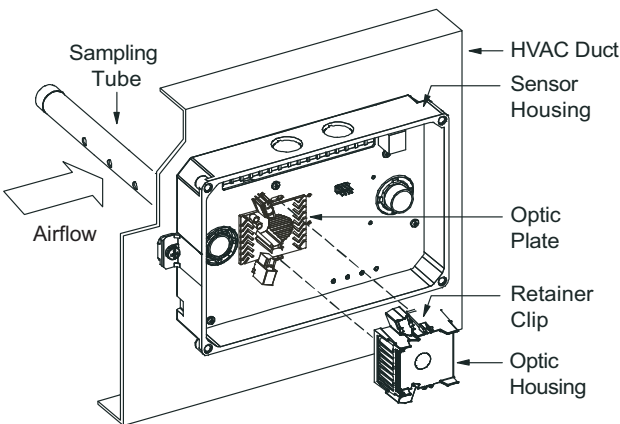

Fig. 59 — Sensor Cleaning Diagram
- 1. Disconnect power from the duct detector then remove the sensor’s cover. (See Fig. 59.)